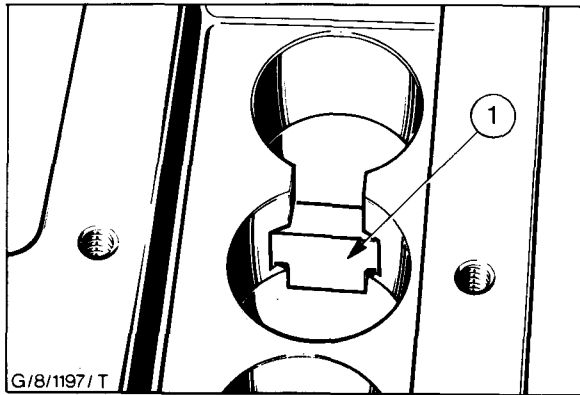

Fig. 31 - Tappet Locating 'T' Piece
21. Dorset Pumps: Remove the tappet locating 'T' pieces from between the tappet bores (Fig. 31).